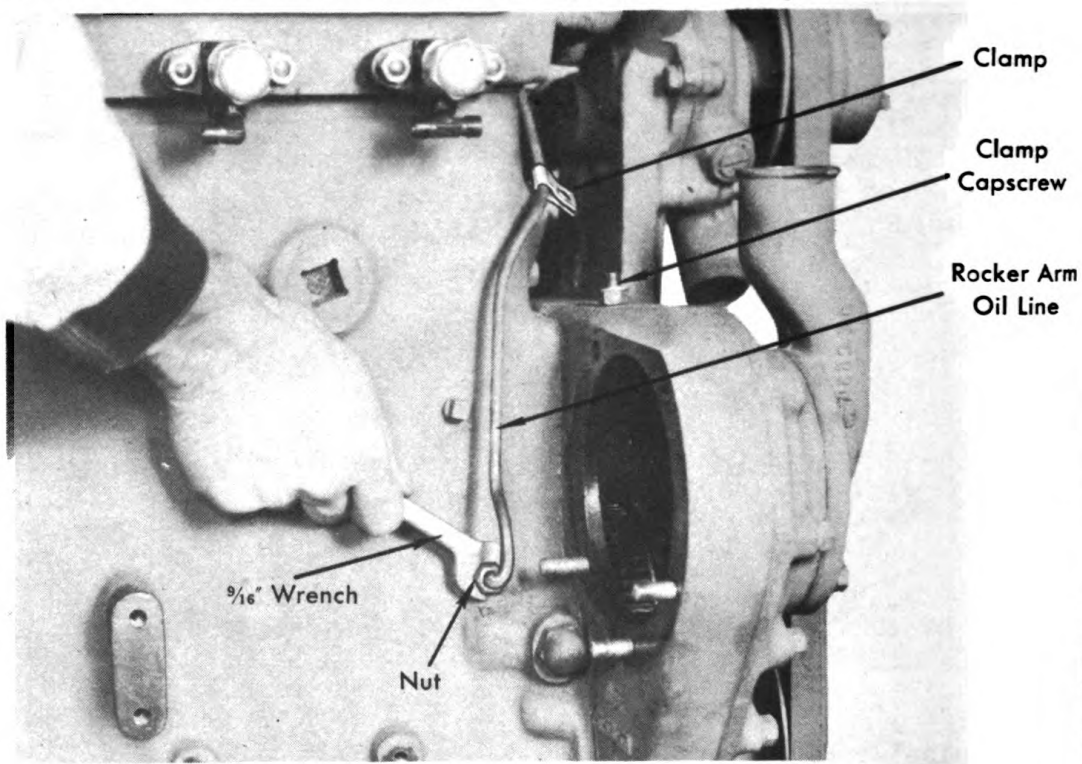
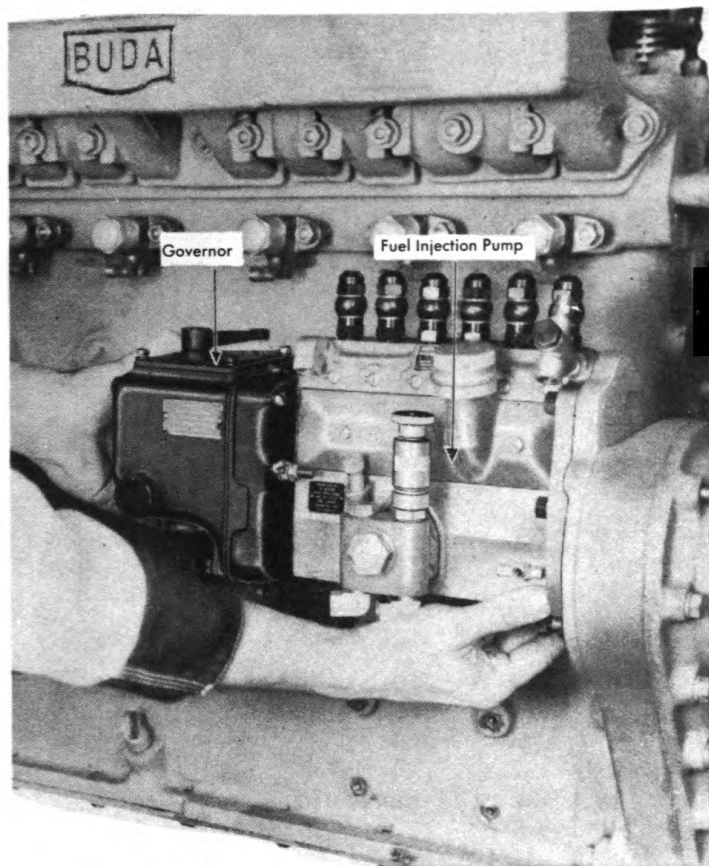

Figure 110. Removing Oil Line to Rocker Arm.
Figure 111. Removing Fuel Injection Pump and Governor.
G. Remove the rocker arm lubricating oil line to the cylinder head. The inlet connection is located in the crankcase directly behind the fuel injection pump. See Figure 110.
7. Remove the governor, fuel injection pump, and the adaptor plate as a unit from the gear housing. See Figure 111. **NOTE:** It will be necessary to remove the external rocker arm oil line before removing full injection pump. See Figure 110.